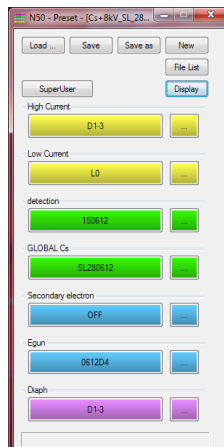
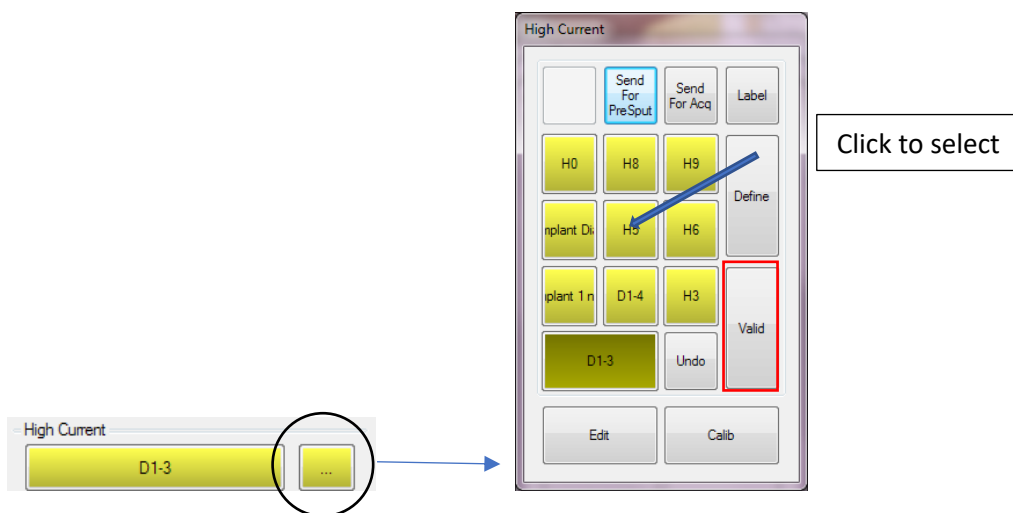

Figure 311: example of a Presets window for  $\text{Cs}^+$  analyses with e-gun preset available.
Figure 313: window showing all 10 presets for a given category (here: High current)
- Possibly using the filters available, select the desired file ( $\text{Cs}^+$ ,  $\text{O}^-$  or  $\text{O}_2^+$  depending on your analysis type, so that the correct preset options will be available) and click on *Open*. The following window appears (Figure 311):
Come back to the PRESET window and check that all presets you want to apply are ready to be used (Figure 311). If not, click on the right button of each Preset and select the one you want to launch (Figure 313). Select the desired preset and click on “Valid”. The preset is immediately applied to the instrument and keyboard.